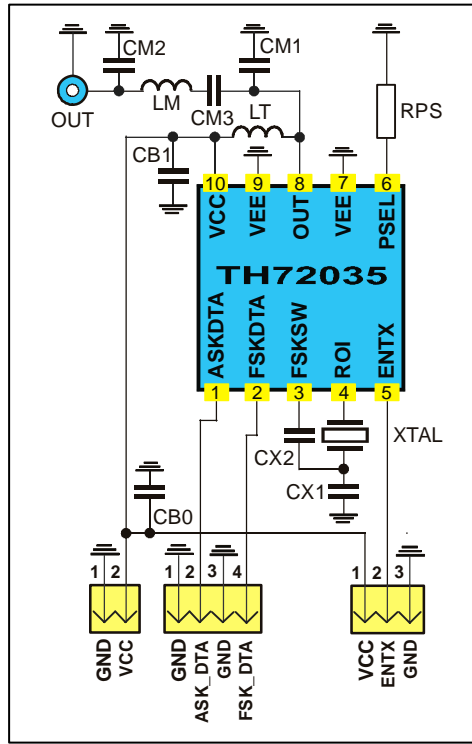

Fig. 18: Test circuit for FSK and ASK with 50 Ω matching network
typical values at $T_A = 23\text{ °C}$ and $V_{CC} = 3\text{ V}$; test circuit shown in Fig. 18, $f_c = 868.3\text{MHz}$
- Data according to test circuit in Fig. 18 (868.3MHz)
6.1 Test circuit component list to Fig. 18